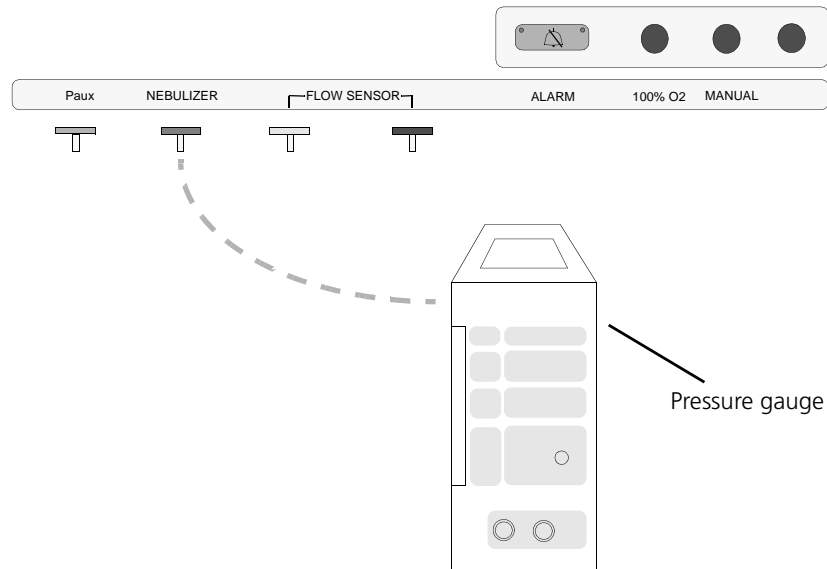

Figure 10-43. Setup for checking the nebulizer compressor and valve
2. Connect the pressure gauge to the nebulizer connector as shown in Figure 10-43, using a pressure probe suitable for measuring about 2000 mbar.